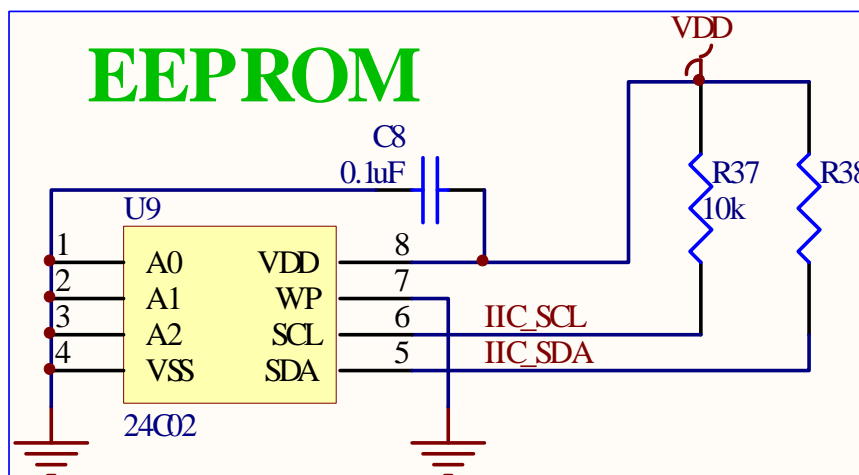

Figure 9
- ◆ U9 : EEPROM 24C02, as described in Figure 9.